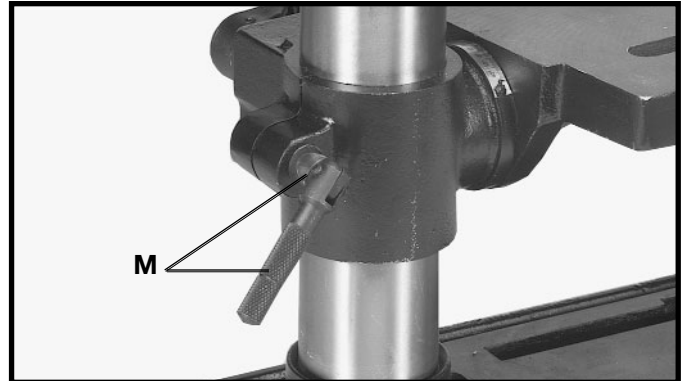

Fig. 12
8. Thread clamp handle (M) Fig. 12, into hole in rear of table bracket, as shown.